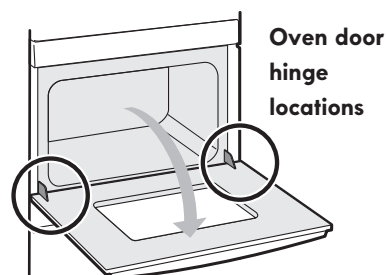

Figure 30: Door hinge location
1. Open oven door completely, horizontal with floor (Figure 30).
3. Fully open the oven door, horizontal with floor (Figure 30).